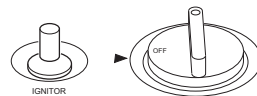

Figure 19 - Control Knob In The OFF Position
4. Wait five (5) minutes to clear out any gas. Then smell for gas around heater and near the floor. If you smell gas, STOP! Follow "B" in the safety information above. If you don't smell gas, go to the next step.
5. Press in control knob and turn counterclockwise to the PILOT position. Keep control knob pressed in for five (5) seconds (see Figure 19).